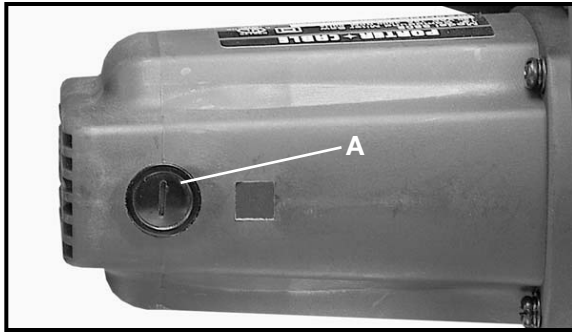
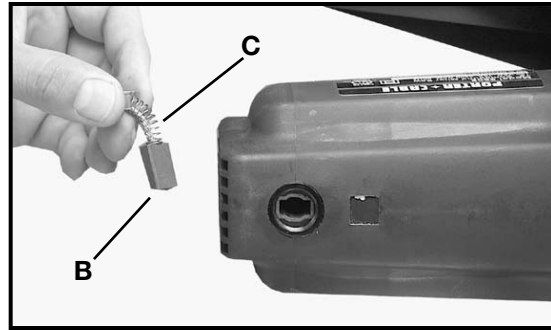

Fig. 49
Fig. 50
The brush holders (A) Fig. 49, are located on the motor housing opposite each other. Fig. 50, illustrates one of the brushes removed for inspection. When the carbon on either brush (B) is worn to 3/16" in length, or if either spring or shunt wire (C) is burned or damaged in any way, replace both brushes. If the brushes are found serviceable after removing, reinstall them in the same position.